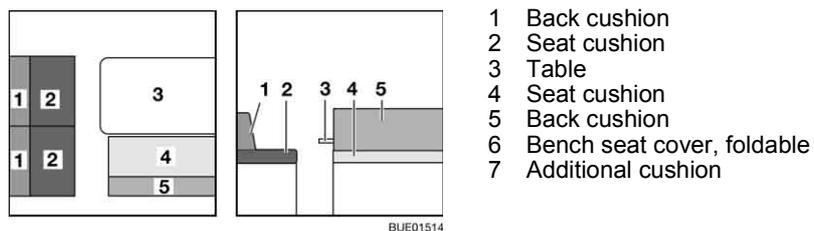

Fig. 137 Prior to conversion
- Convert the table (Fig. 137,3) to a bed foundation (see section 6.11).
- Remove and put aside the back cushions (Fig. 137,1 and Fig. 137,5) and the seat cushion (Fig. 137,2).